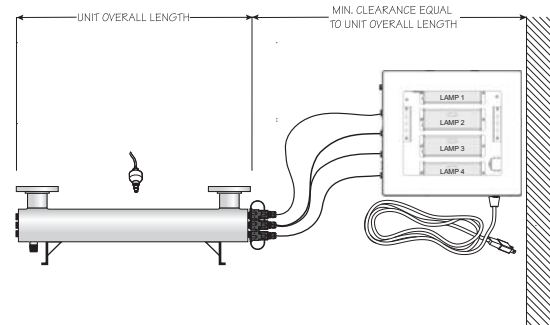

Figure 2 Disinfection System
- Figure 2 shows the installation of a typical disinfection system and the related components that may be used for the installation. The use of a by-pass assembly is recommended in case the system requires “off-line” maintenance. In this case, note the system requires supplementary disinfection for the distribution system if any water is used during by-pass condition. In addition, during by-pass, the water will NOT be disinfected and a “DO NOT CONSUME THE WATER” tag should be physically installed on the by-pass assembly until such time as the system is sanitized and returned to service. For more information, refer to our disinfection procedure, Section 3.1. If the water is to be consumed while the system is off-line, the water must be boiled for two minutes prior to consumption.
- Select a suitable location for the disinfection system and its related components. As it is recommended to install a GFCI, make sure that this is taken into consideration prior to any installation. The system must be installed horizontally, refer to Figure 2. When selecting a mounting location, you must leave enough space to allow for the removal of the UV lamps and/or quartz sleeves (typically leave a space equal to the size of the reactor chamber itself).